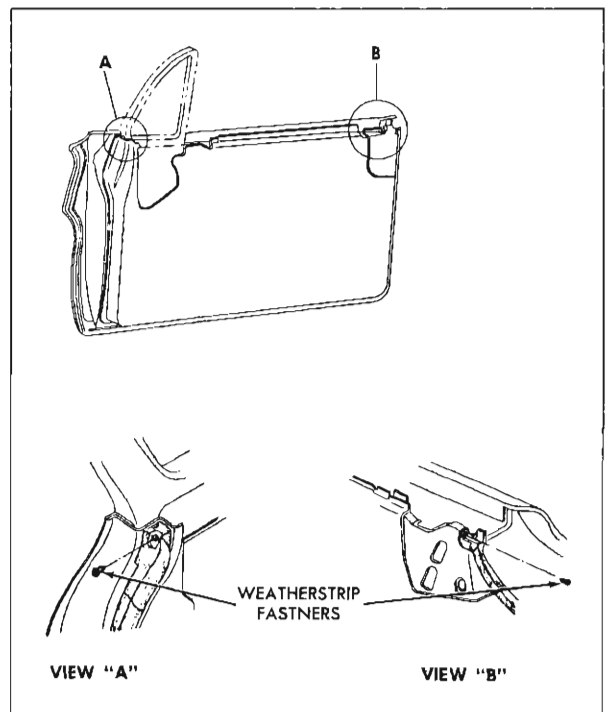

Fig. 3-13 Front Door Weatherstrip
1. Remove snap fasteners securing ends of weatherstrip at belt line of door hinge and lock pillar panels (See Fig. 3-13).